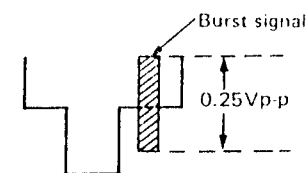

Figure 40.
- 3) Adjust the burst signal level to 0.25Vp-p by using R577 as shown in figure 40.